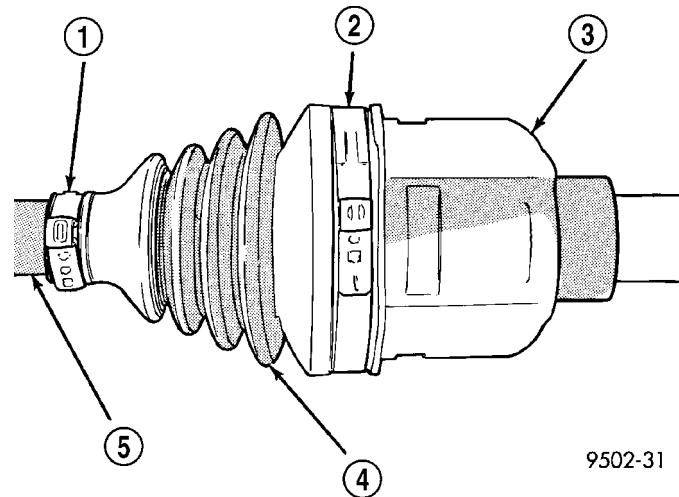

Fig. 28 Inner Tripod Joint Sealing Boot Clamps
(1) Remove the halfshaft requiring boot replacement from the vehicle. (Refer to 3 - DIFFERENTIAL & DRIVELINE/HALF SHAFT - REMOVAL)
(2) Remove large boot clamp that retains inner tripod joint sealing boot to tripod joint housing (Fig. 28) and discard. Then remove small clamp that retains inner tripod joint sealing boot to interconnecting shaft and discard. Remove the sealing boot from the tripod housing and slide it down the interconnecting shaft.